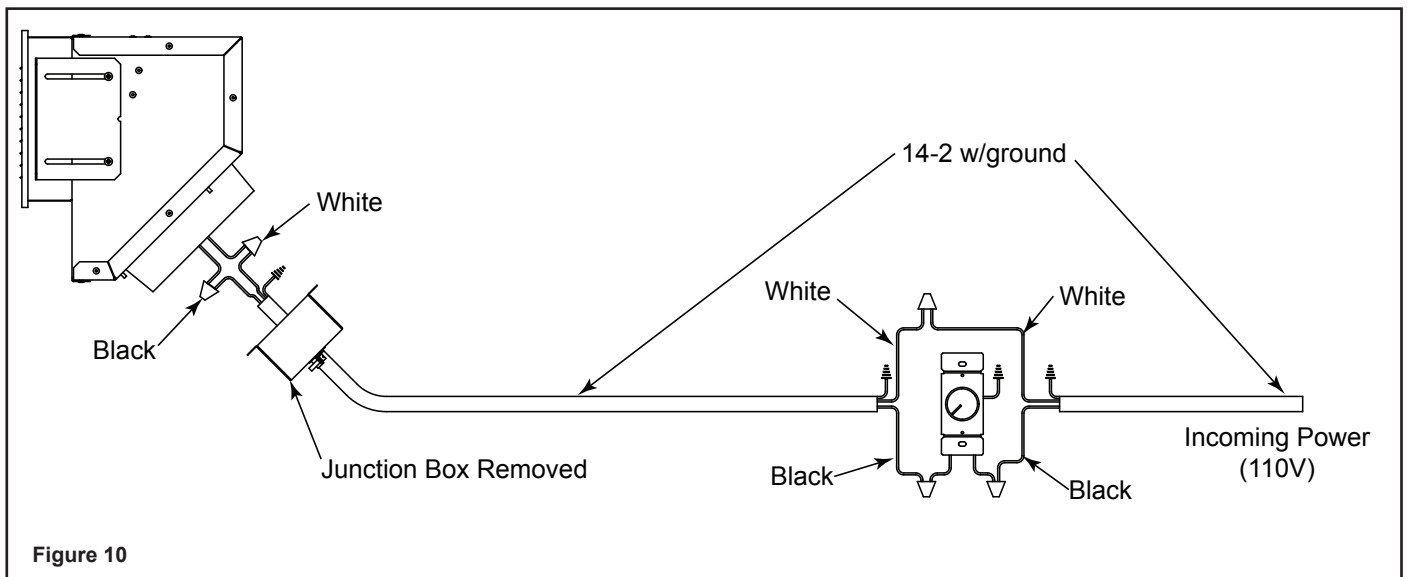

Figure 10
- Remove the junction box. Wire 110 VAC service TO the wall rheostat and FROM the wall rheostat to the fan junction box. Use wire nuts to secure the 110 VAC service wires to the hot (black) and neutral (white) fan wires and screw the 110 VAC ground wire to the junction box. See Figure 10.